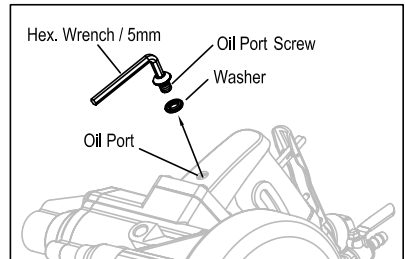

Figure 1
2. Remove the screw (Part No. 3001-0061) using the supplied Hex Wrench (5mm). (See Fig. 1)